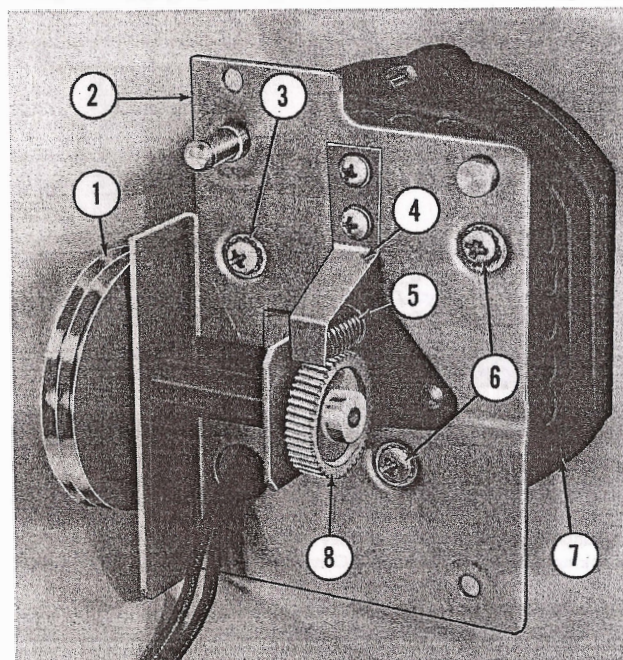
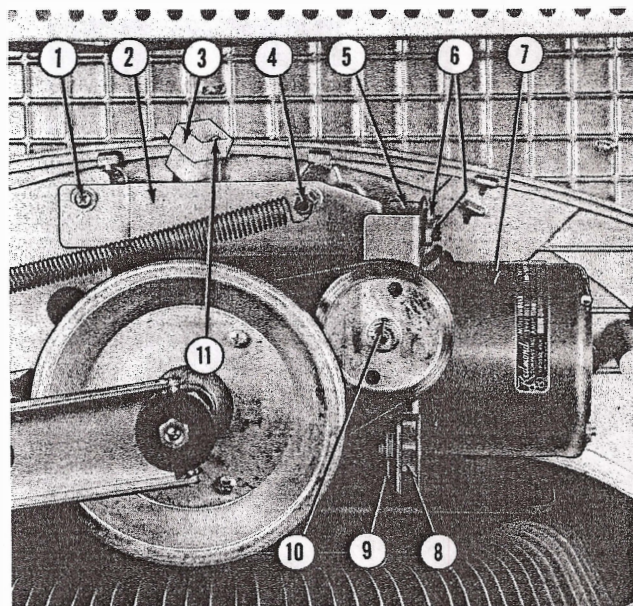

Fig. 75. TURNTABLE DRIVE GEAR ADJUSTMENT
Fig. 76. TURNTABLE MOTOR MOUNTING AND BELT ADJUSTMENT
(3) The turntable table drive gears (Fig. 75, Items 5 and 8) are adjustable for alignment and mesh. The motor and mounting plate assembly may be removed from the top support casting by disconnecting the line plug (Fig. 76, Item 3) near the tone arm trip switch. Two lock nuts (Item 6) hold the mounting plate to the two top rubber mounts and a retaining ring (Item 9) holds the bottom stud. With the motor and mounting plate removed the motor may be shifted on the mounting plate by loosening the three screws (Fig. 75, Items 3 and 6) to center the worm gear over the nylon pinion gear and to mesh sufficiently for free running with a minimum of back lash. The thrust spring (Fig. 75, Item 4) should bear against the steel ball in the end of the worm gear with a pressure of 2-1/2 to 3-1/2 ounces. The gears and motor bearings should be well lubricated as indicated in the maintenance instructions.
(4) The turntable drive pulley is mounted on the driver gear shaft with an allen set screw (Fig. 76, Item 10). The pulley should be mounted on the shaft to allow approximately .006" end play.